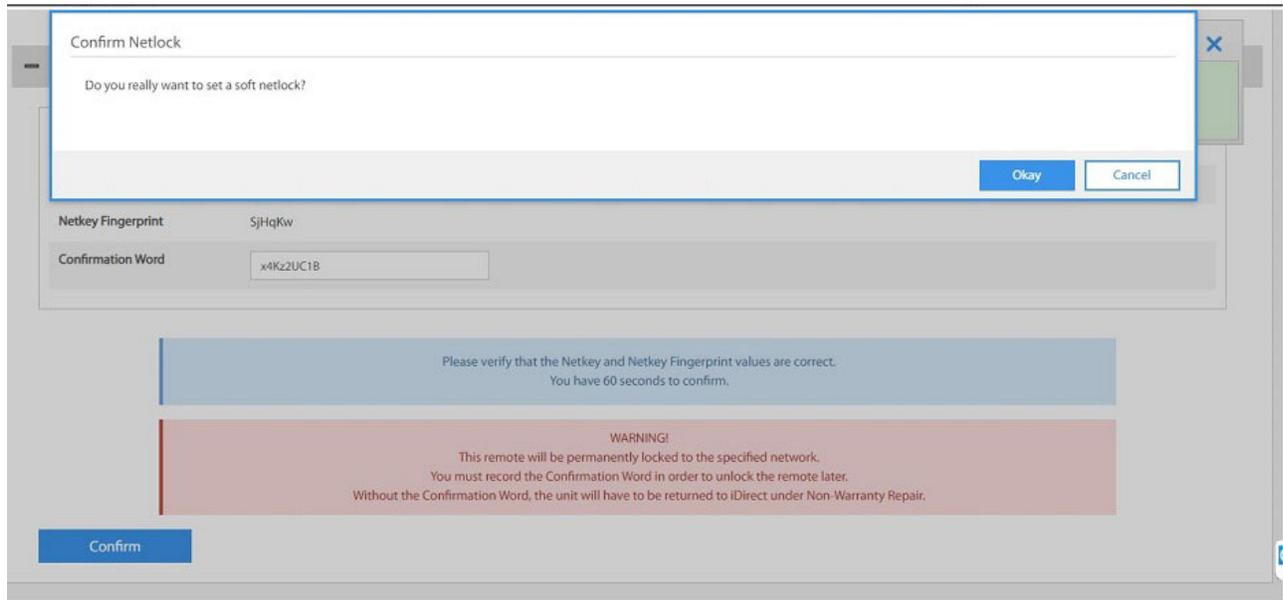
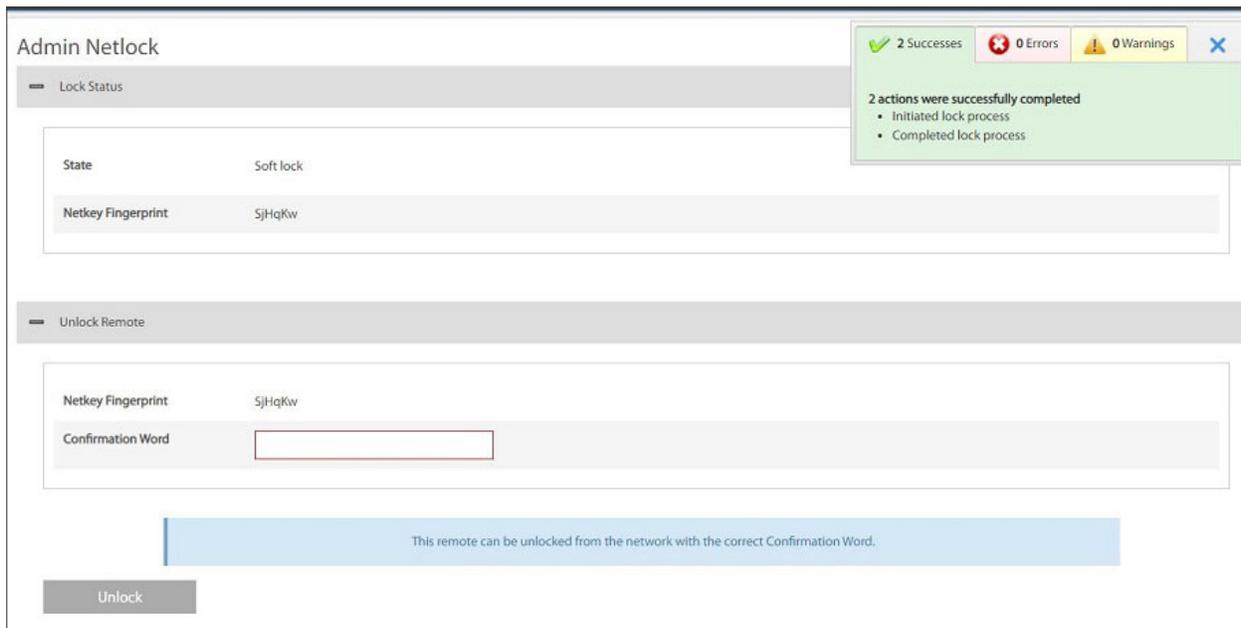

Figure B-5. Confirm Netlock Pop-Up Window
Figure B-6. Final Lock Status
8. Click **Confirm** (see Figure B-5). The **Lock Status** section displays the **State** of the Lock Status (see Figure B-6).
The soft locked remote screen shown similar to Figure B-6 appears.